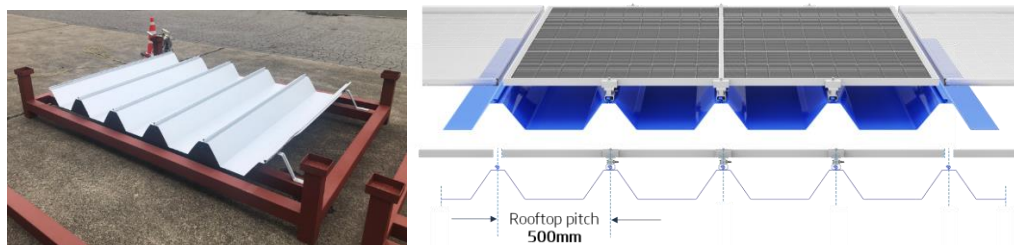

Figure 4: Typical Shell roof of Japan instalation
- The following installation conditions and loads are only applied to tyhpcal shell roof in Japan. The pitch distance is 500mm as shown in figure 4.